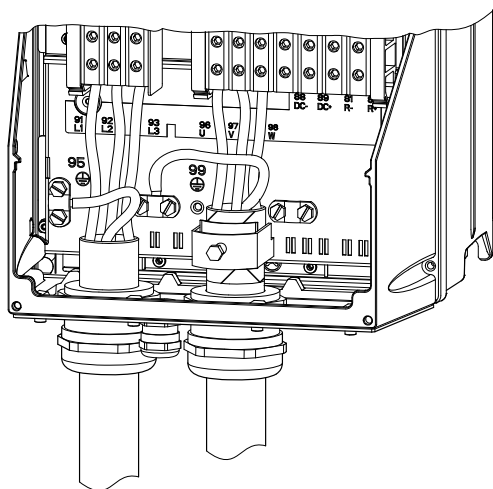

Fig. 18 Mains and motor connection, C1 and C2
1. Connect the ground conductor to terminal 95 (PE). See fig. 18.
1. Connect the ground conductor to terminal 99 (PE). See fig. 18.
2. Connect the motor conductors to terminals 96 (U), 97 (V), 98 (W).